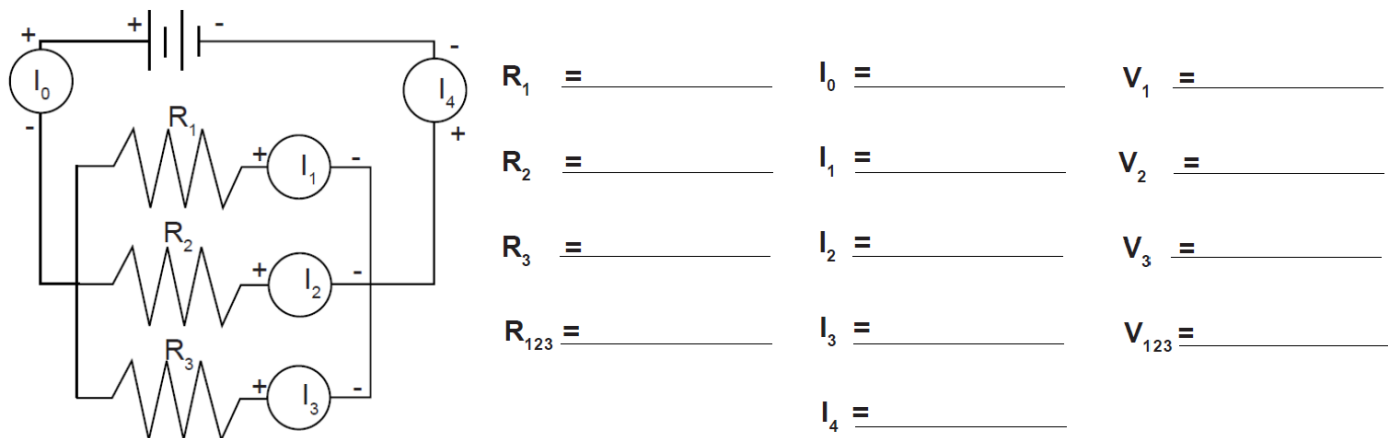

Figure 6.4
4. Connect the **parallel circuit** in Figure 6.4, using all three resistors. Review the instructions for connecting the multimeter as an ammeter in Step 2. Connect it first between the positive terminal of the battery and the parallel circuit junction to measure I_0 . Next, interrupt the various branches of the parallel circuit and measure the individual branch currents. Record your measurements in the table inside the figure.